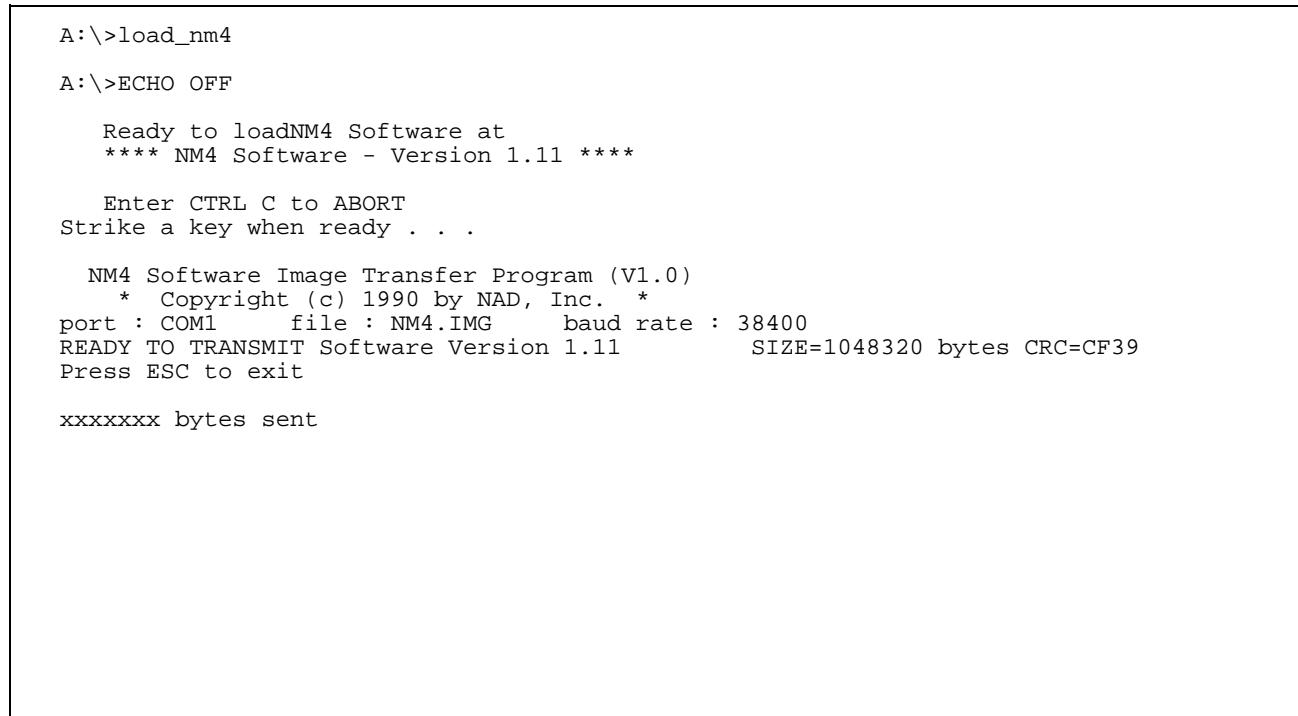

FIGURE 18: SOFTWARE LOAD PC SCREEN
9. The PC program will print the version number and ask for verification. Press ENTER to proceed. The PC screen is shown in Figure 18.